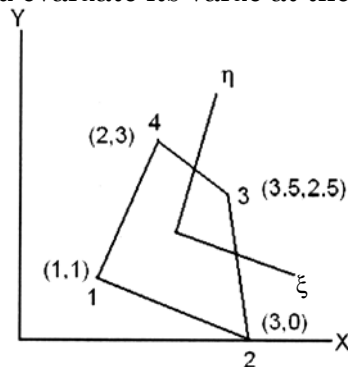

Fig. 15 (b)
- (b) (i) Why do we use natural coordinates? Differentiate between subparametric, isoparametric and superparametric elements. (5)
- (ii) For the four noded element shown in Fig. 15(b) determine the Jacobian and evaluate its value at the point (1/3, 1/3). (8)